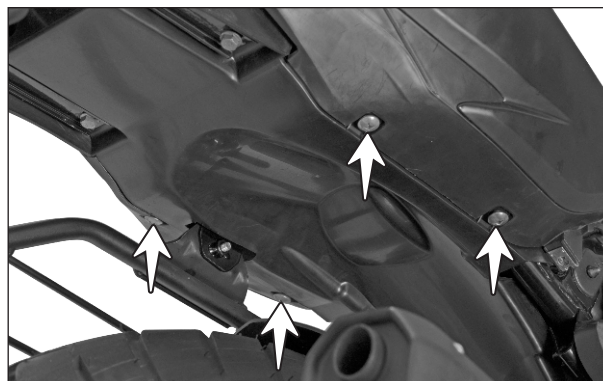

Fig. 2.28
- Remove the CRR pan head screw (M6x16 - 4 nos.) from the mounting of tail cover assembly bottom. (Fig. 2.28)